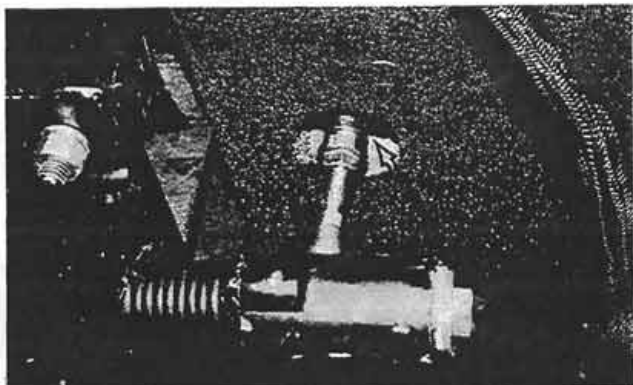

Figure 12:
1. Apply moderate pedal pressure for several minutes to see if the piston seal will leak. If leakage is present, it can be observed when the rubber dust boot is loosened from the rear of the cylinder (Fig. 12).